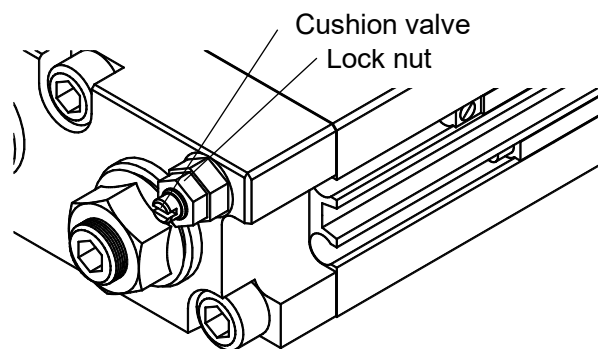

Fig.14
- a) Rotary actuator is not adjusted so that the cushions work during shipment. Adjust the cushion valve attached to the cover depending on rotation time and load inertia moment. (See Fig 14)